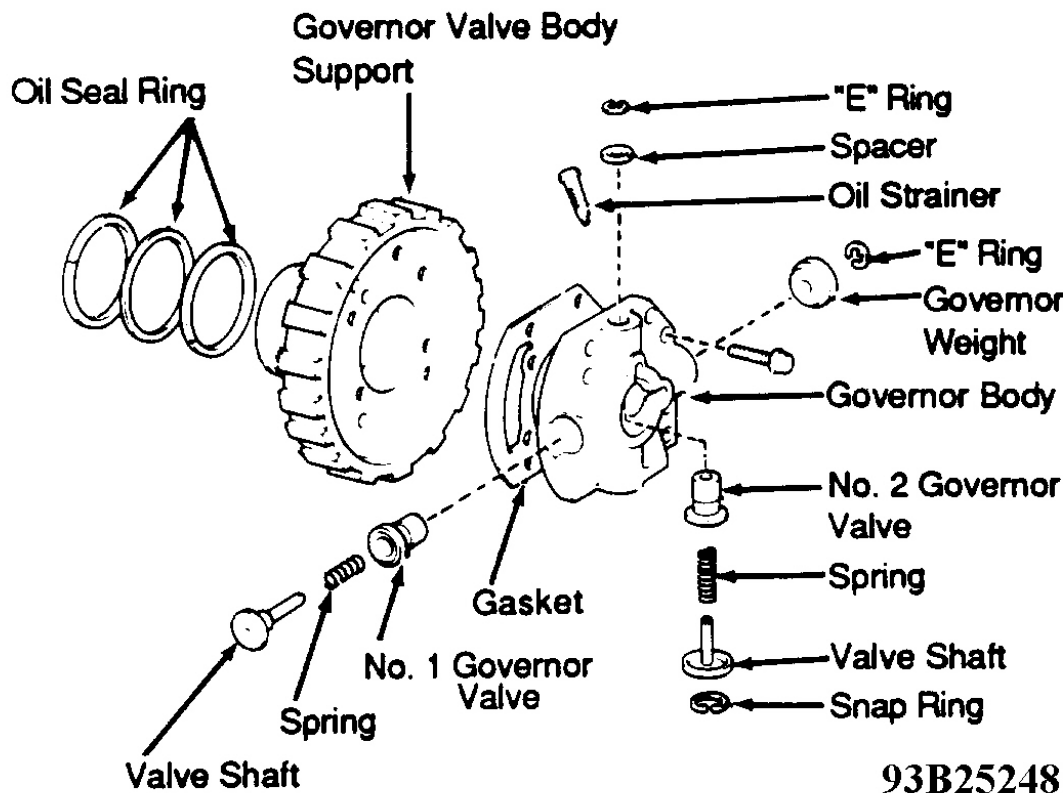

Fig. 35: Exploded View Of Governor Body
1. Remove oil seal rings. Remove governor body and gasket. Remove oil strainer. See **Fig. 35** .